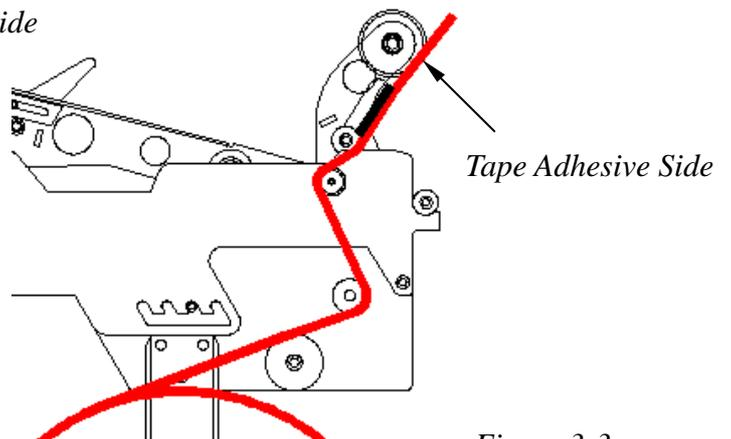

Figure 3-3
- B. Adhere the guide plate to the tape, as shown in Figure 3-3.